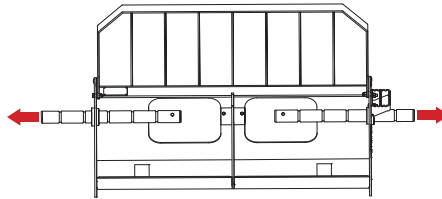

Figure 8
2. Slide the tyne rods outwards just enough so that the tynes can be fitted (Figure 8).